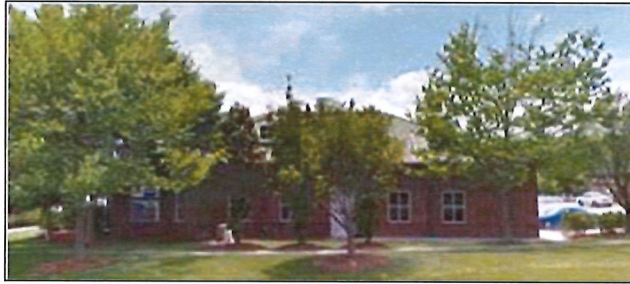

Figure 04: Convenience Store orientation, landscaping, arrangement of windows and doors
- (1) The rear façade of the Convenience Store shall be oriented to face the public right of way. The Convenience Store building shall be physically aligned with the Fuel Station Canopy so that the view of the canopy shall be minimalized from view from the public right-of-way.
- (2) The use shall utilize transparent windows and doors, arranged on at least 50% of the first floor of the primary building façade.
- (3) The windows and doors on the rear facade must be arranged on at least 50% of non-glassed areas of the first floor. The arrangement of windows and doors shall project a façade similar to a primary façade, consistent with the depiction exhibited below, in Figure 04.
- (4) Service door located on the rear-façade shall be painted or finished in a color that blends with the materials used for the façade.